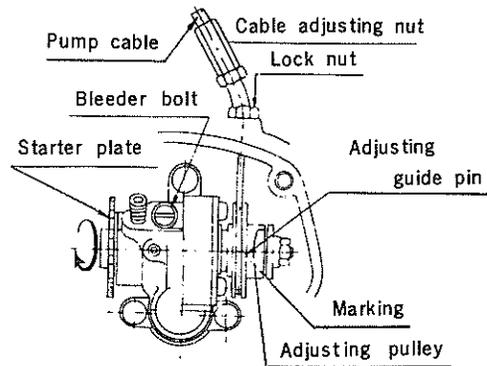
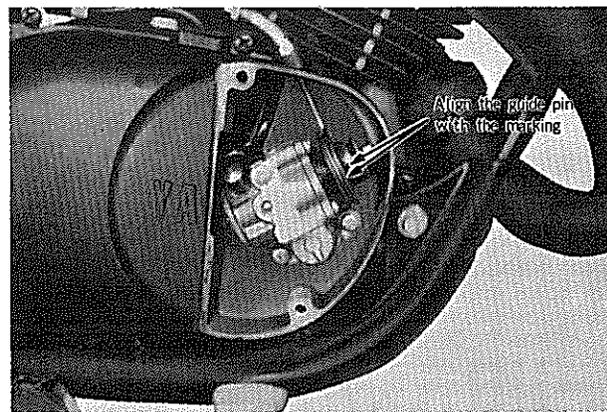

Fig. 2-3-7
Fig. 2-3-8
- Check the play of the throttle cable (A) by pulling the outer part of the throttle grip. If the play is excessive or insufficient, adjust the play with the adjustment screw.
- a. Adjust the pump cable so that the marking (arrow) on the Autolube pump adjusting pulley is aligned with the guide pin (see Fig. 2-3-8). Begin by fully closing the accelerator grip, then slowly turning it back again so that the slack in the throttle cable is completely taken up. Next, adjust the pump cable so that the marking on the pump adjustment pulley will be aligned with the guide pin, as shown in Fig. 2-3-7. The point of adjustment is at the end of the cable, just before it enters the case. Loosen the lock nut and screw the adjuster in or out, whichever direction is necessary to obtain the correct adjustment.